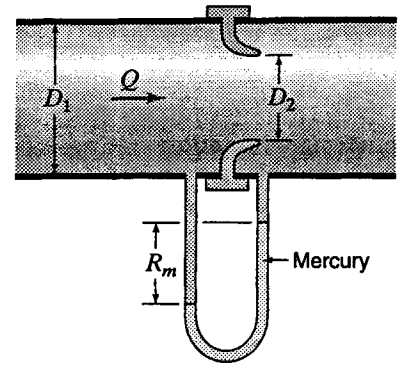

Figure P11.31
11.31 A 7-in ISA flow nozzle is used to measure the flow of 20°F crude oil ($\rho = 0.855$) through a 10-in-diameter pipe (fig. P11.31). If a mercury manometer shows a reading of 6.9 in, find the flow rate.